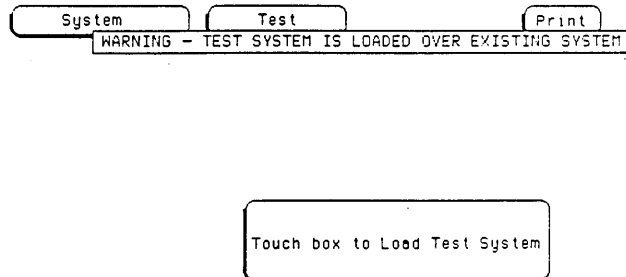

Figure 4-3. Loading the Test System.
3. Touch the field in the center of the screen to load the Test System (see figure 4-3).